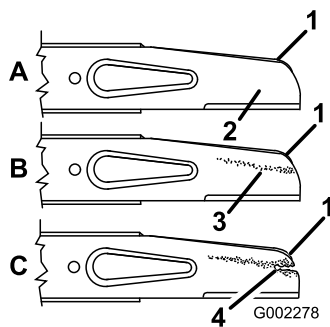

Figure 29
2. Remove the blade nuts, the accelerator, and the blade (Figure 29).